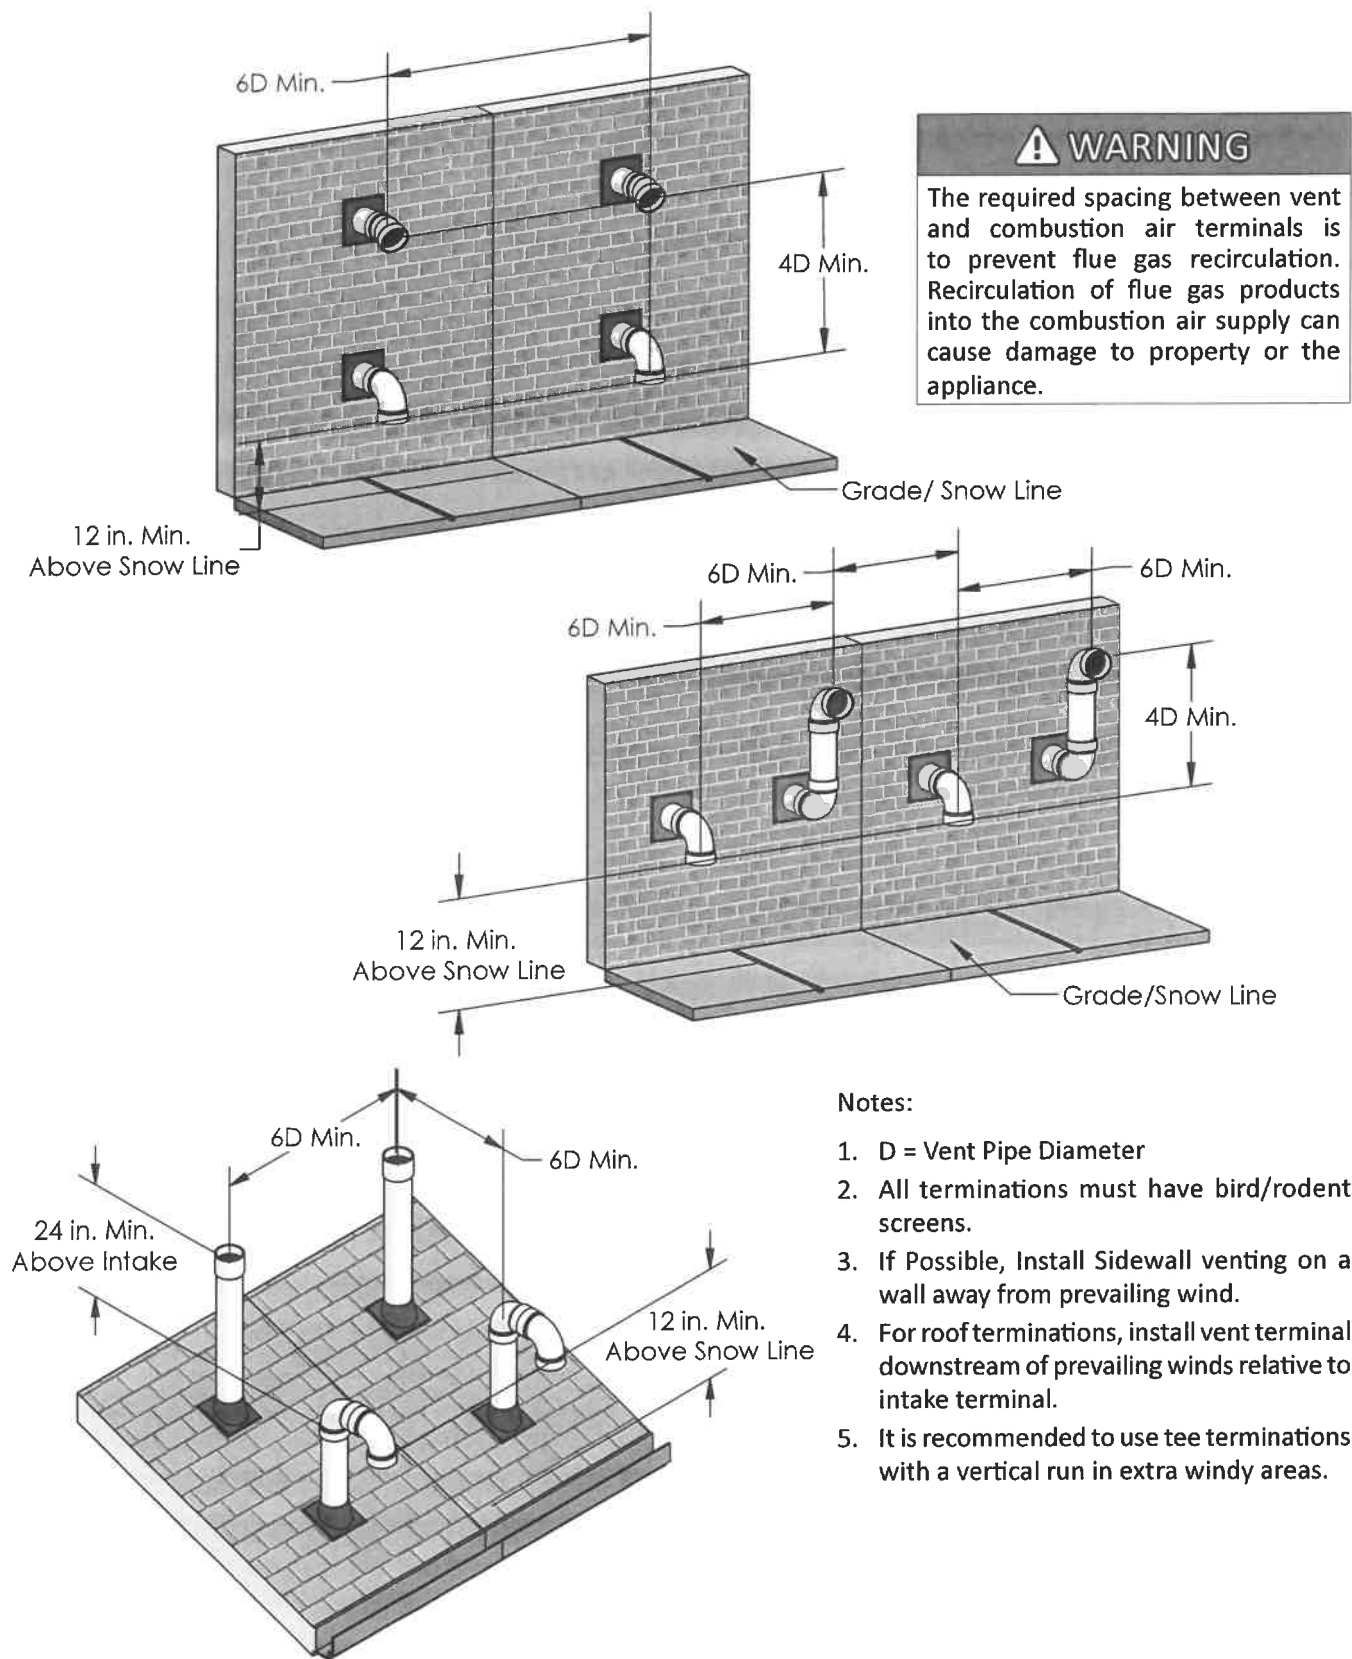

Figure 12: Multiple Appliance Direct Vent Termination
- a. Multiple appliance vent terminations are shown in Figure 12.
- a. Multiple appliance combustion air terminations are shown in Figure 12.